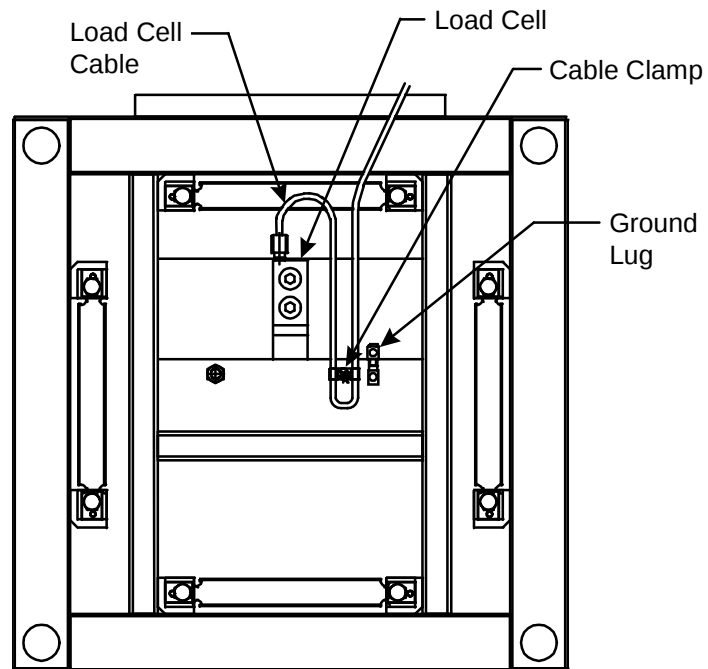

Figure 2-7: Underside of Scale Base
The load cell cable should be routed through the cable clamp (see Figure 2-7) to relieve strain on the cable's connection to the load cell. Make sure that the cable is not touching any of the flexures on the underside of the scale base.
If there is a ground wire, attach it to the ground lug on the underside of the scale base (see Figure 2-7).
8. Route the load cell cable through the cable clamp (see Figure 2-7) and connect it to the load cell. Allow enough slack in the cable so that there is no strain on the connection. The cable should not touch any of the flexures.